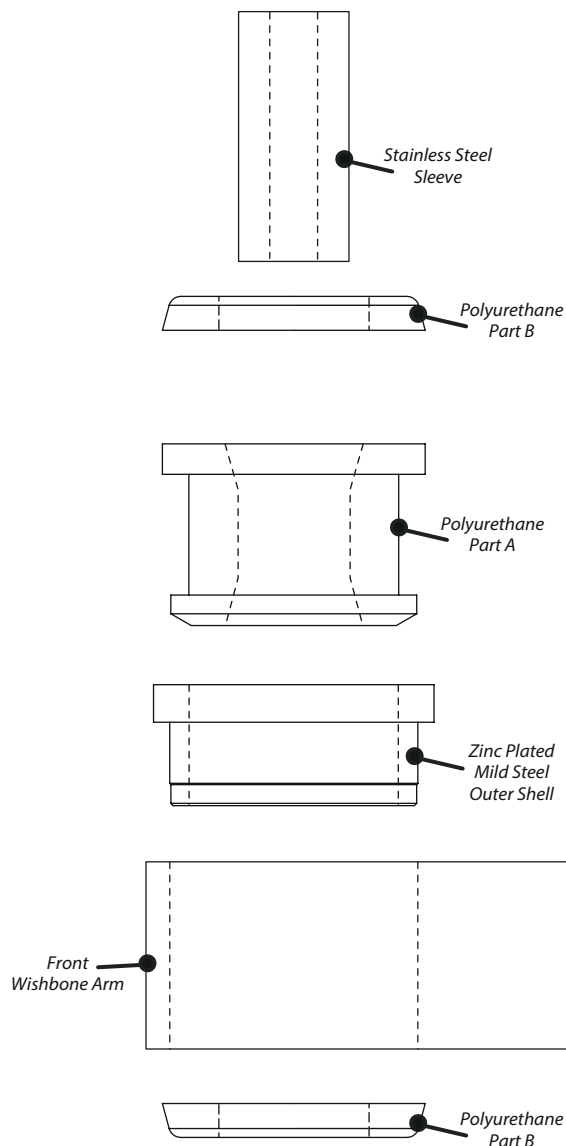

Figure 1
5. Place polyurethane part B on the top and bottom of part A, as shown in Figure 1.